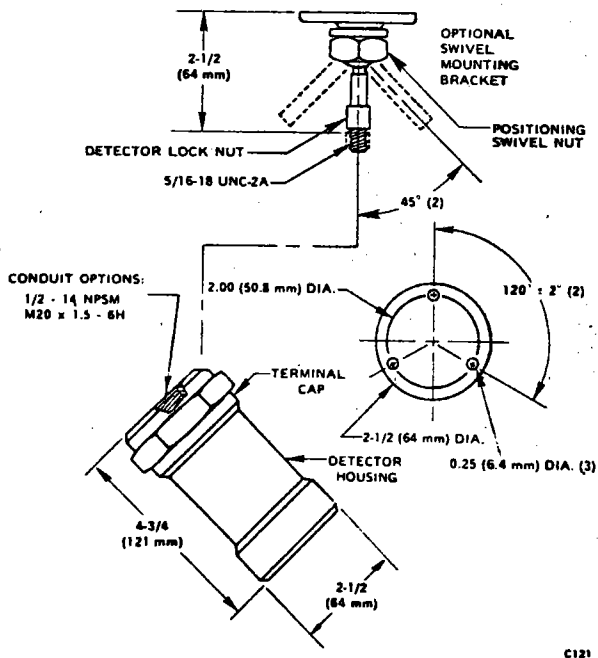

Figure 3—Mounting Dimensions and Conduit Connections.
5. Remove detector housing from terminal cap. See Figure 3.
6. Install terminal cap to conduit with connector. See Figure 3 for connector information.
7. If optional swivel mounting bracket is used, mount bracket with terminal cap attached to appropriate surface and in the location desired. See Figure 3 for mounting dimensions.